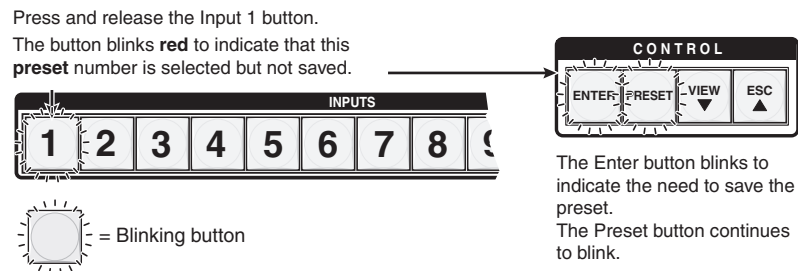

Figure 3-42 — Select the preset
3. Press and release the input or output button for the desired preset (figure 3-42).